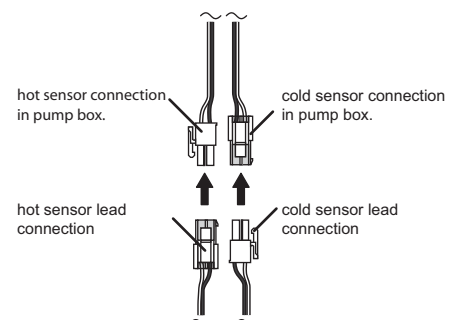

Figure 37 - Temperature Sensor Leads
1. Ensure hot and cold sensors are connected as shown **Figure 37**.